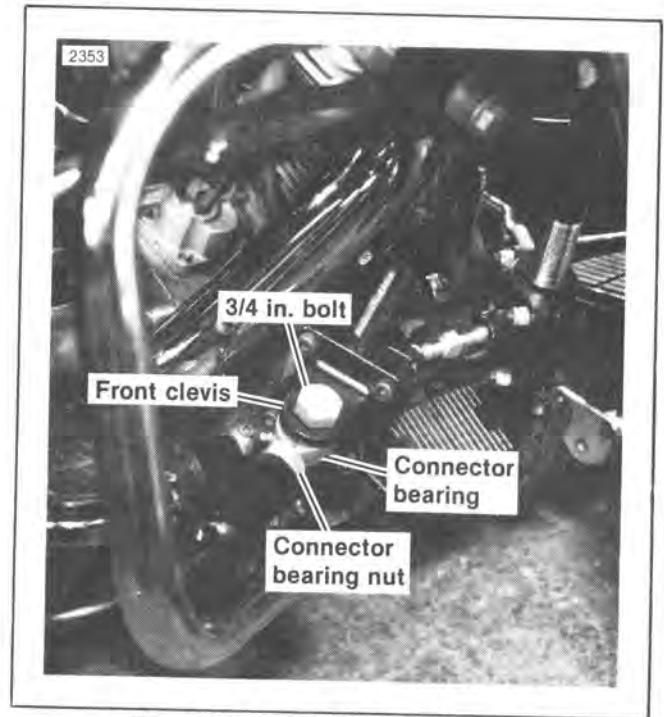

Figure 6-7. Front Sidecar Connection
2. Make sure connector bearing nuts on sidecar are loose, front and rear. See Figures 6-7 and 6-8.
3. See Figure 6-7. With front connector bearing threads exposed approximately 1/4 in., install connector bearing into front clevis. Install 3/4 in. diameter bolt through clevis and connector bearing. Nut and lockwasher should be on bottom. Do not tighten at this time.